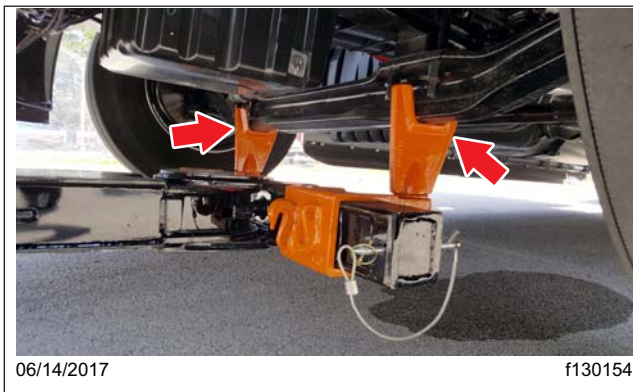
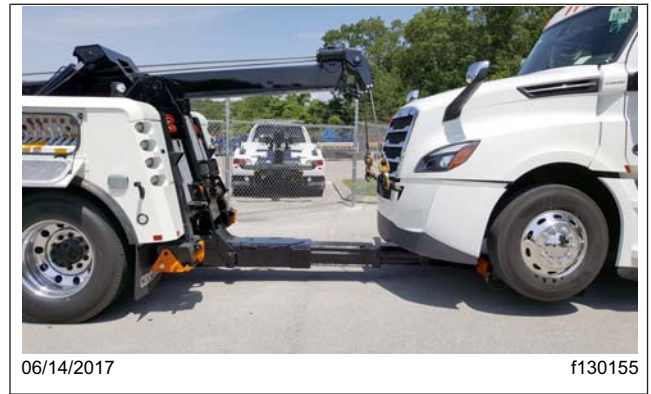

Fig. 23.13, Positioning the Stinger with Lift Adaptors Under the Axle
Fig. 23.14, Stinger with Lift Adaptors Under the Axle (tow truck shown)
10. Extend the stinger and place the lift adaptors under the axle. Make certain the lift adaptors are under the front suspension springs between the U-bolts. See Fig. 23.13 and Fig. 23.14.